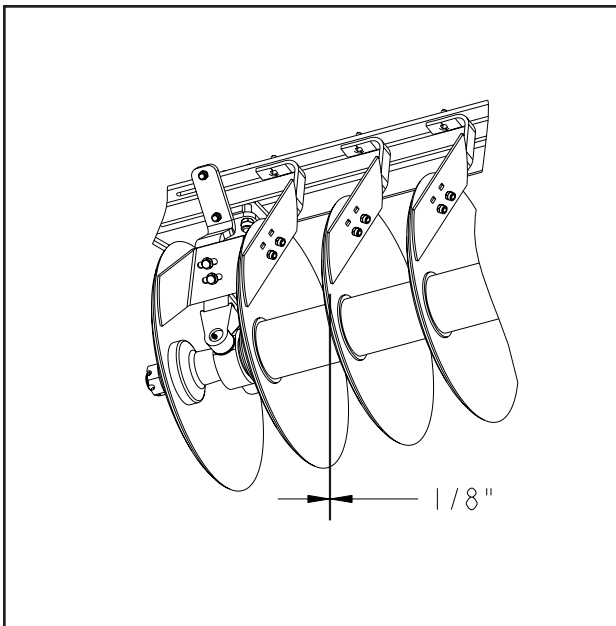

Figure 4-1 Disc Scraper Adjustment to Disc Blade
- 4-2.5 Check disc scrapers for proper adjustment to the disc blade. (See Figure 4-1).